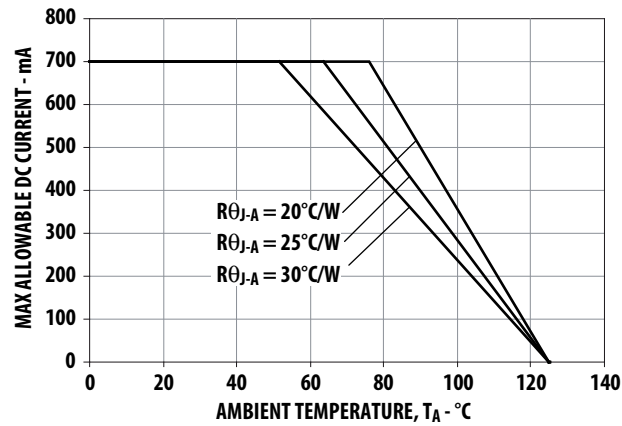

Figure 10. Maximum Forward Current vs. Ambient Temperature. Derated based on TJMAX = 125°C, RθJ-A = 20°C/W, 25°C/W and 30°C/W.
1. Derate linearly based on Figure 10 for AllInGaP and Figure 22 for InGaN.